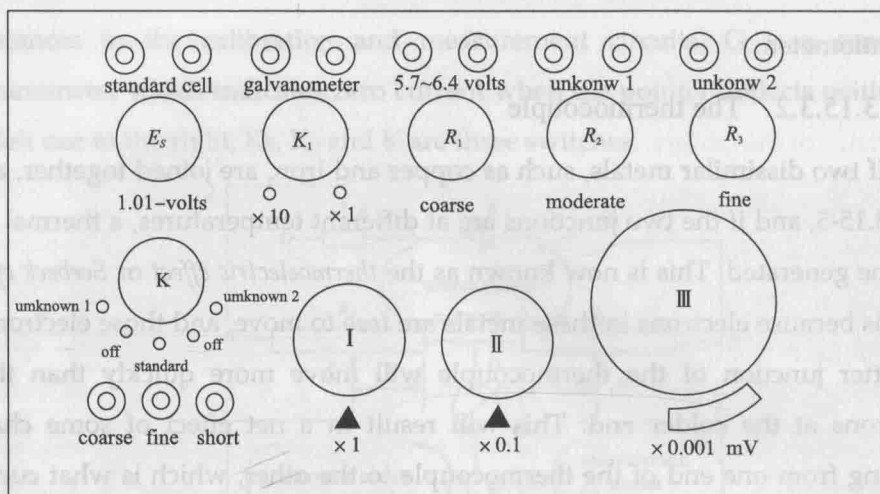

Fig. 3.15-6 Panel of the box potentiometer
Fig. 3.15-6 shows the panel of a box potentiometer. The knobs on the panel are introduced in Table 3.15-1.
(7) Tune E_s to set the value to 1.0185V .
(8) Tune the stable power supply so that the output is in the range of $5.7\sim 6.4\text{V}$.
(9) Press in the “short” button to see if the galvanometer reads zero. If not, adjust it mechanically by a screwdriver. There are five sensitivity grades for the galvanometer. The greater the number, the more sensitive the galvanometer is. You can choose the sensitivity as high as possible but the pointer of the galvanometer should not oscillate when current goes through it.
(10) Rotate the switch K to “standard” and set grade “1” for the galvanometer. Push in the “coarse” knob at the lower left corner. If the galvanometer deflects far from zero, adjust R_1 and R_2 (see Fig. 3.15-6) until the galvanometer deflects little from zero. Rotate the “coarse” knob to lock it. Push in the “fine” knob and increase the sensitivity of the galvanometer. Tune R_3 until the galvanometer reads zero. Choose the sensitivity as high as possible so that
(12) Turn the switch K to "unknown 1" or "unknown 2" to measure the unknown emf.
(13) Push in the "coarse" knob. If the galvanometer deflects far from zero, adjust knobs "I" and "II" (see Fig. 3.15-6) until the galvanometer deflects little from zero. Rotate the "coarse" knob to lock it. Push in the "fine" knob. Tune knob "III" until the galvanometer reads zero. Now, read the scales on the knobs "I" "II" and "III" and add them up. The result is the emf produced by the thermocouple at temperature of 35°C.
(14) Repeat Steps (6) through (13) to complete Data Table 3.15-1 for the temperatures given in the table.